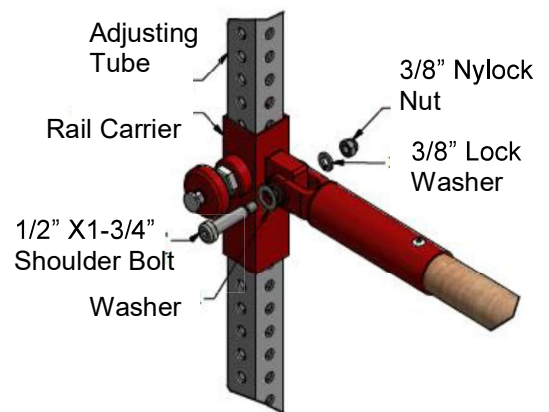

Fig. 5
1. Now place (1) **Rail** into both **Rail Carriers** across from one another to determine the proper location of the **Upright** (see Fig. 5 & 7).